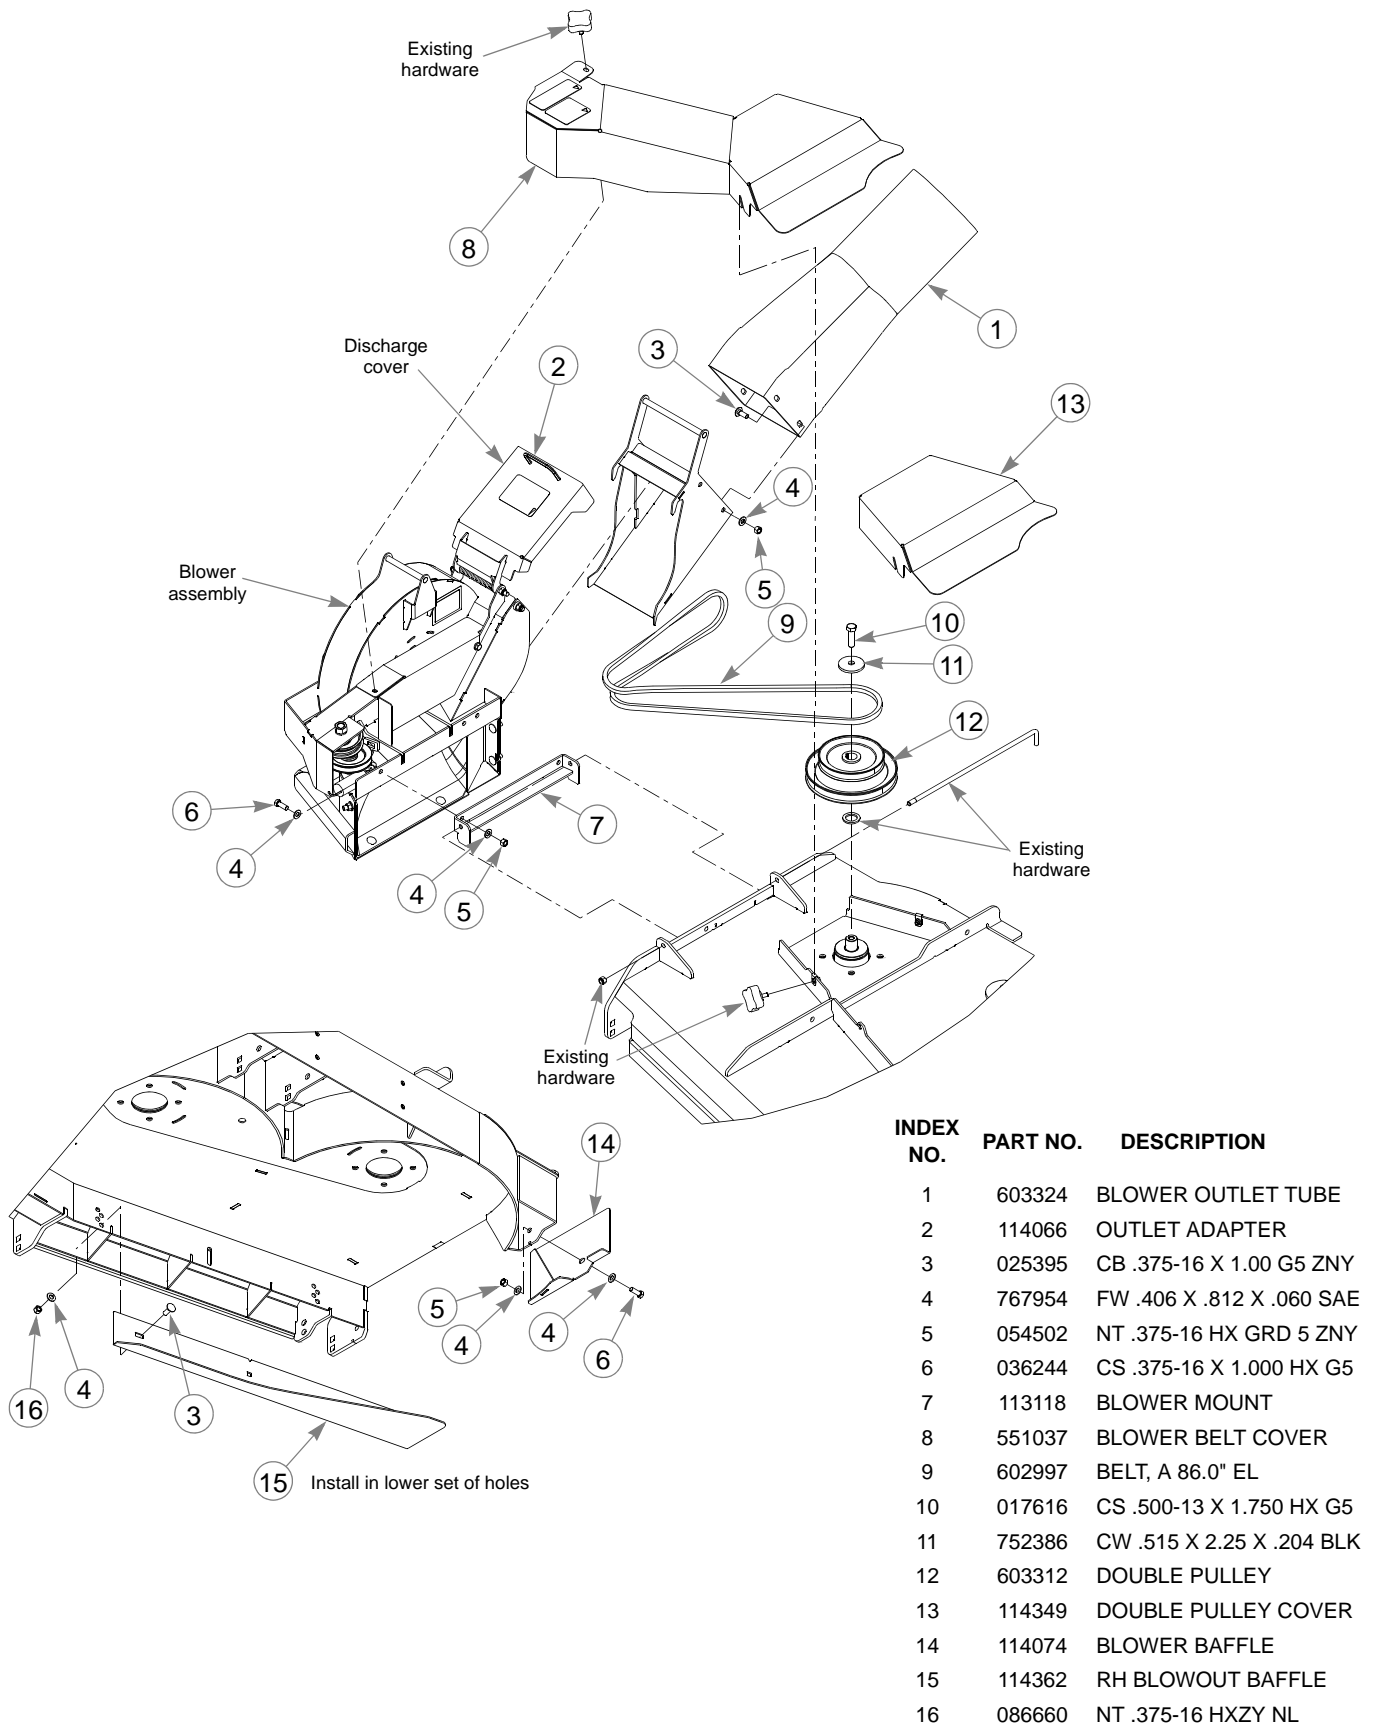
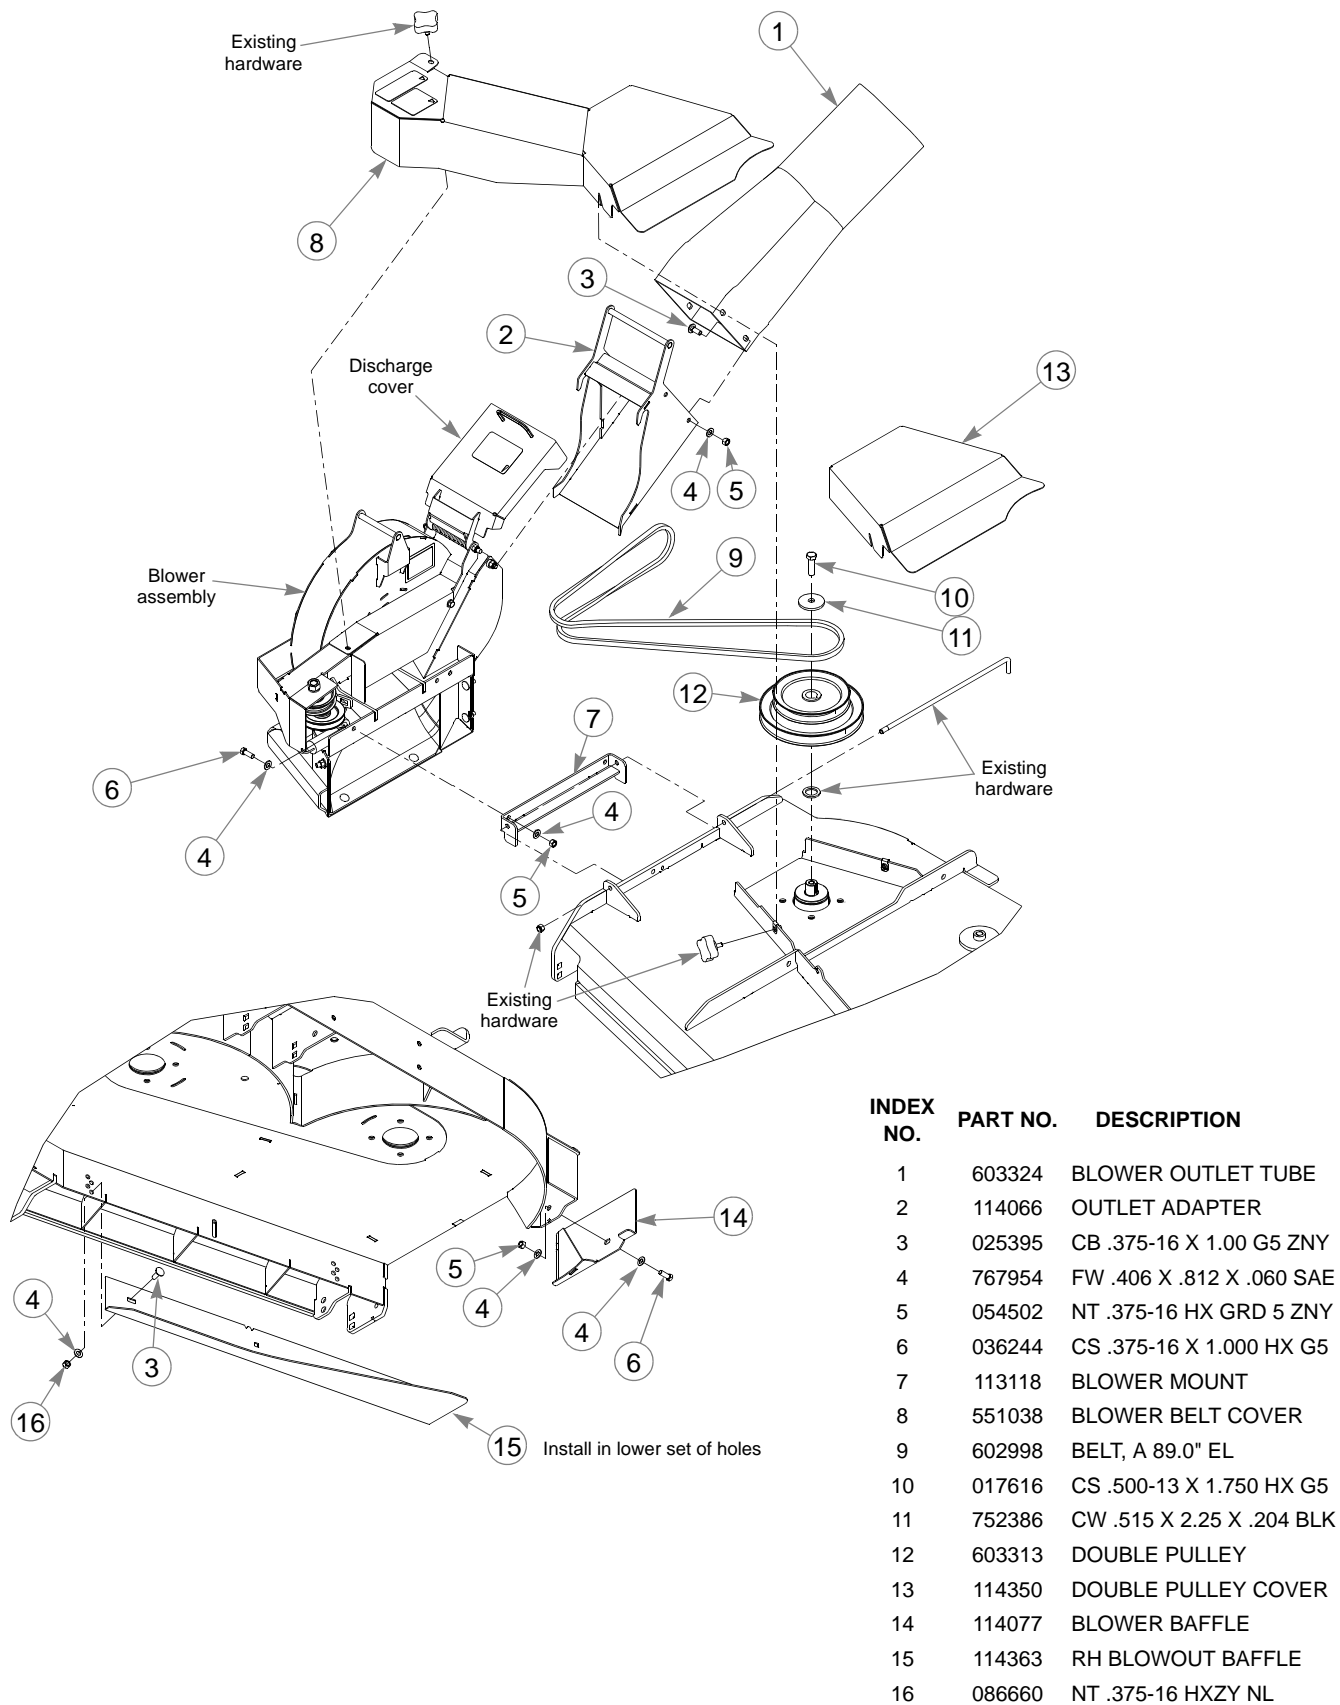

Figure 3-4
Figure 3-5
All decks – Replace the pulley with the double pulley and place the new cup washer between the head of the new bolt and the drive pulley. Thread the cup washer and bolt assembly into the spindle shaft. Torque bolt to 118 ft.-lbs. Refer to Figure 3-1, Figure 3-2, Figure 3-3, Figure 3-4 or Figure 3-5.
4. Attach the deck blowout baffle to the underneath side of the deck. Refer to Figure 3-1, Figure 3-2, Figure 3-3, Figure 3-4 or Figure 3-5.
5. Attach the blower baffle to the deck. Refer to Figure 3-1, Figure 3-2, Figure 3-3, Figure 3-4 or Figure 3-5.
6. Assemble the blower mount to blower assembly. Refer to Figure 3-1, Figure 3-2, Figure 3-3, Figure 3-4 or Figure 3-5.
7. Attach the blower assembly to the deck by inserting the rod through the discharge chute bracket and blower mount and secure with nut. Refer to Figure 3-1, Figure 3-2, Figure 3-3, Figure 3-4 or Figure 3-5.
3-2, Figure 3-3, Figure 3-4 or Figure 3-5.
12. Attach the outlet adapter to the blower outlet tube. Refer to Figure 3-1, Figure 3-2, Figure 3-3, Figure 3-4 or Figure 3-5
5. Raise the discharge cover on the blower housing. Slide the outlet adapter into place on the blower outlet. Secure in place with the discharge cover latching the rod handle of the outlet adapter. Refer to Figure 3-1, Figure 3-2, Figure 3-3, Figure 3-4 or Figure 3-5